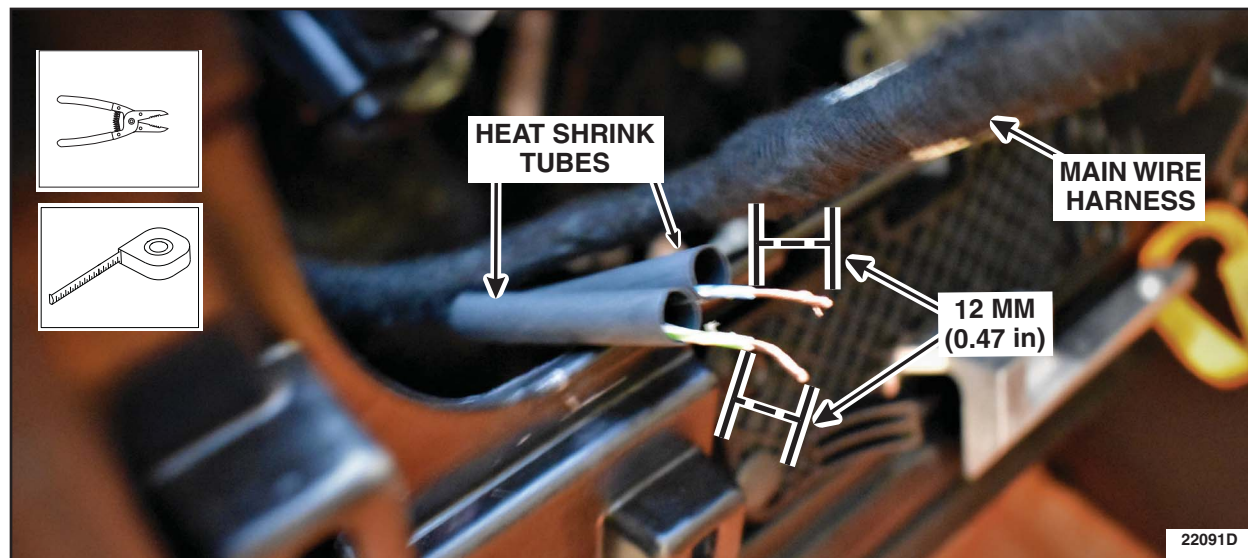

FIGURE 8
7. Strip the insulation from the harness takeout circuits to expose 12 mm (0.47 in) of wire and place the heat shrink tubes on both circuits. See Figure 8.